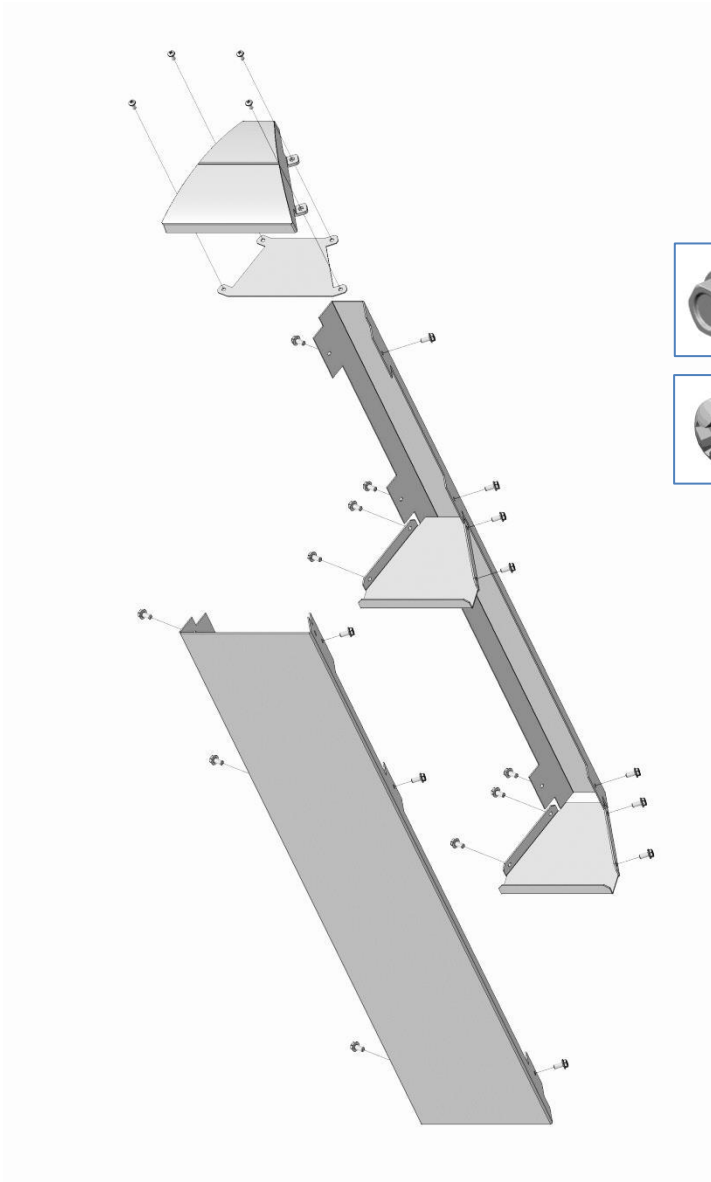

Figure 13
Ergonomic Connectors: Similar to the connectors above, but will not have any features to support fixed height work surfaces. Usually used at angular core transitions adjacent to ergonomic sit-to-stand work surface(s). See figure 13.
Notice in Figure 13 that neither of the vertical panels have any holes, notches or slots for work surface support components.
“L” Bracket - A supplemental “L” bracket is normally required for work surfaces that exceed a 36” span. If required, attach the supplemental “L” bracket to the base core with (2) #10 x 1/2” Phillips flat head self-tapping screws. See figure 26. (“L” brackets are also used to support the narrow edge of a convex wedge work surface (see figure 13).